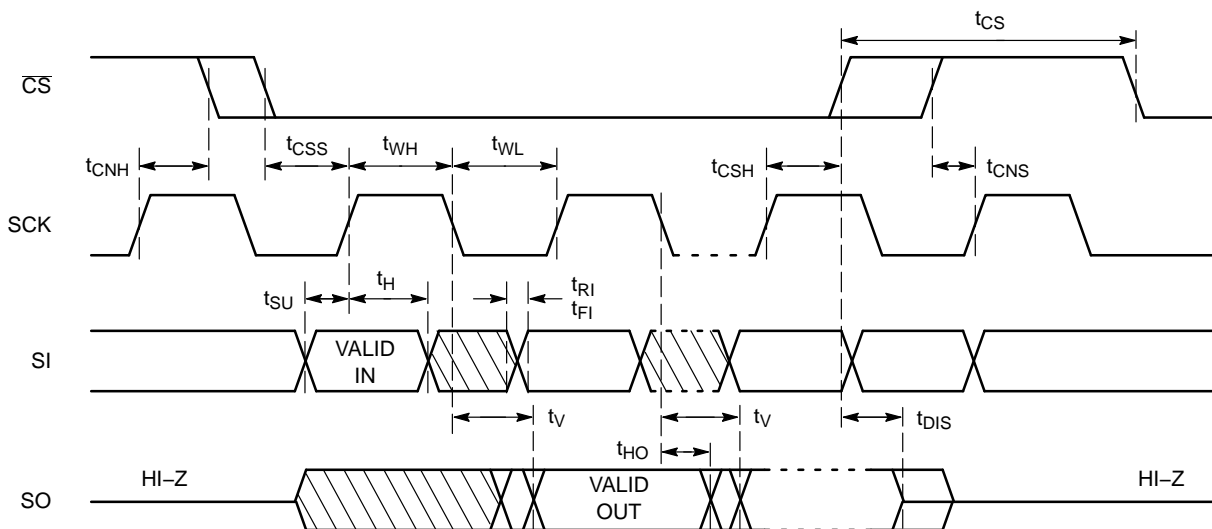

Figure 2. Synchronous Data Timing
9. **All Chip Select (CS) timing parameters are defined relative to the positive clock edge (Figure 2). t_{CSH} timing specification is valid for die revision C and higher. The die revision C is identified by letter "C" or a dedicated marking code on top of the package. For previous product revision (Rev. B) the t_{CSH} is defined relative to the negative clock edge.**
After a high to low transition on the \overline{CS} input pin, the CAS25256 will accept any one of the six instruction op-codes listed in Table 10 and will ignore all other possible 8-bit combinations. The communication protocol follows the timing from Figure 2.